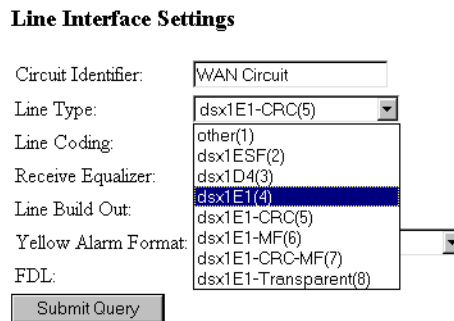

Figure 39. Line Type pull-down menu
1. From the *Line Type* pull-down menu (see figure 39) select *dsx1E1(4)* or *dsx1E1-CRC(5)*.